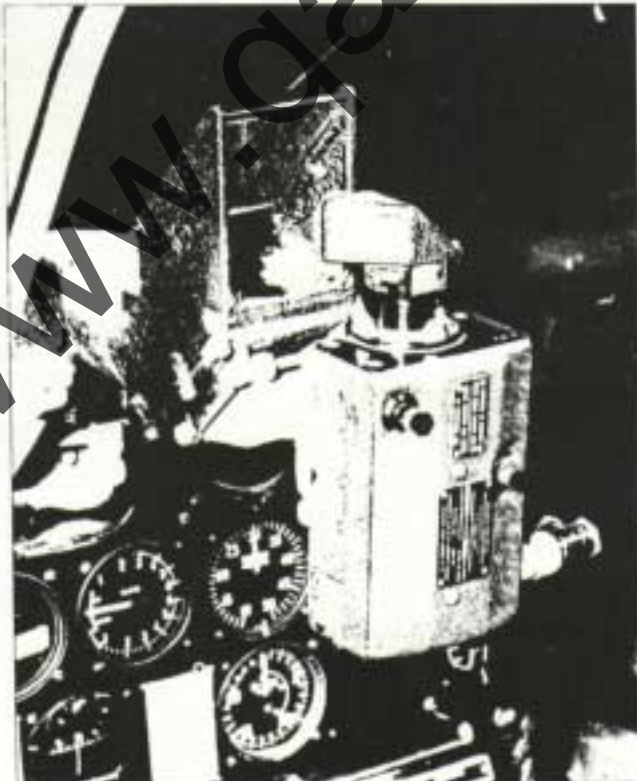

Figure 11 - Gun Sight and Gun Camera Installed
(3) To operate the electric gun sight, open the cover on the sight lens (figure 11), turn ignition switch to "BAT" and adjust rheostat control (figure 10) until the sight lines can be seen by looking through the small reflection glass centrally located just behind the windshield in line with the pilot's eyes.